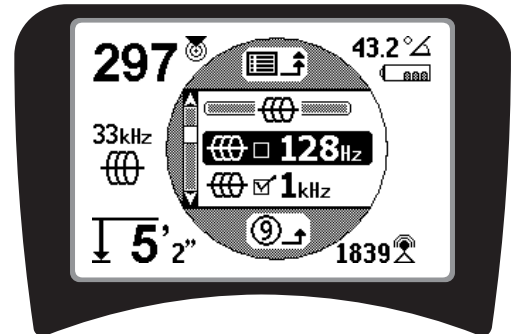

Figure 16 – Highlighting a Desired Frequency (128 Hz)
- Using the up and down arrows, highlight the frequency desired. In Figure 16, below, the operator is activating a 128 Hz frequency.